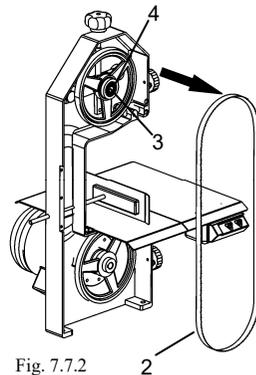

Fig. 7.7.2
- Grip blade 2 and remove from pulley as illustrated in fig. 7.7.2